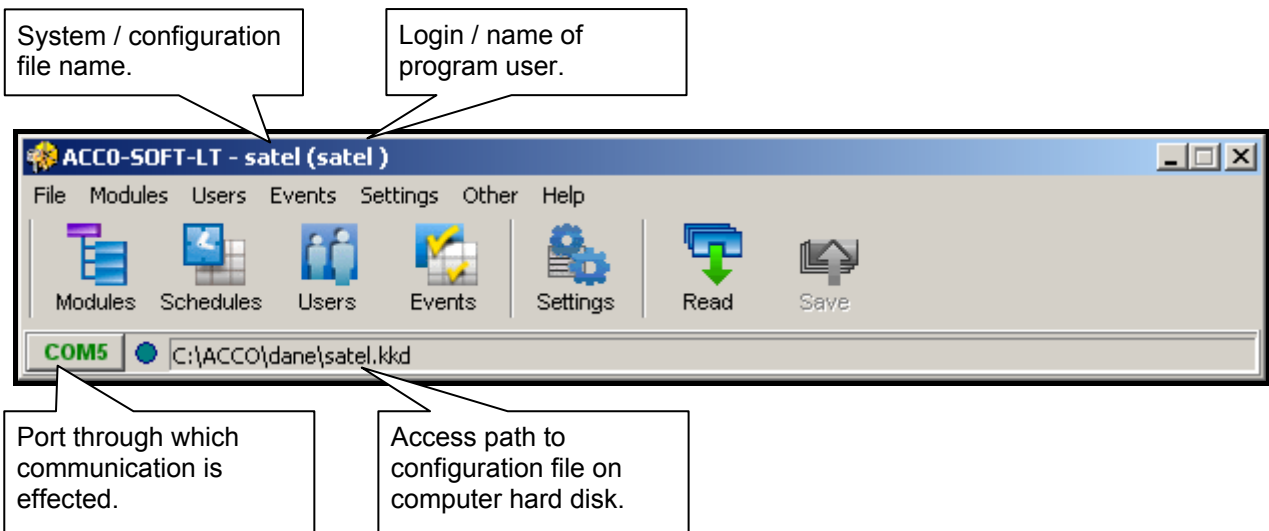

Fig. 22. Program menu bar after creating the configuration file.
5. After creating the configuration file (or opening the already existing file) the appearance of the program menu bar will change (see Fig. 22). The entire menu will be available, including the other buttons.
- Having configured the module(s), save the new settings. The SAVE button in the modules window enables saving the data to the selected module. The SAVE button available on the program menu bar (see Fig. 22) makes it possible to save the data to all system modules whose settings have been changed.